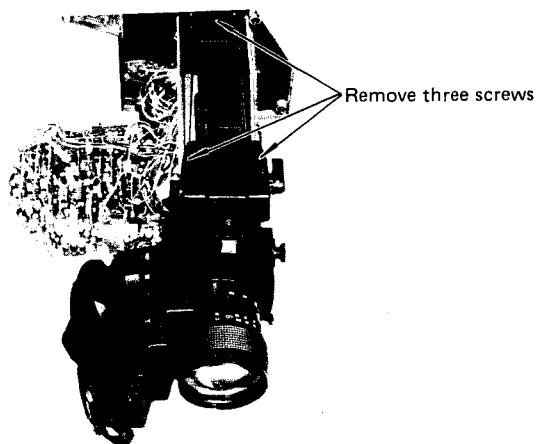

Fig. 3-1-1
- o Remove three screws which hold the upper handle cover and remove the upper handle cover. (Fig. 3-1-1)